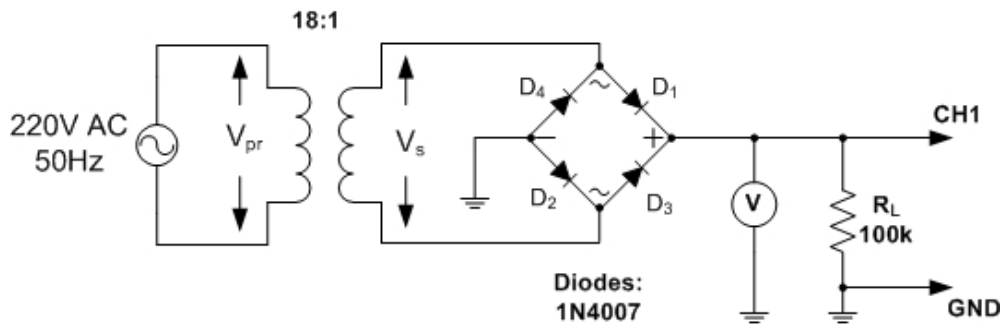

Figure 12: The Practical Full-Wave Bridge Rectifier Circuit
- Connect the full-wave bridge rectifier circuit shown in Fig.12. Measure the DC output voltage, and the peak value of the output voltage as tabulated in Table 5. Sketch the output waveform in this case. It should be noted that the secondary winding waveform in this case is similar to that of the center-tapped full-wave rectifier.